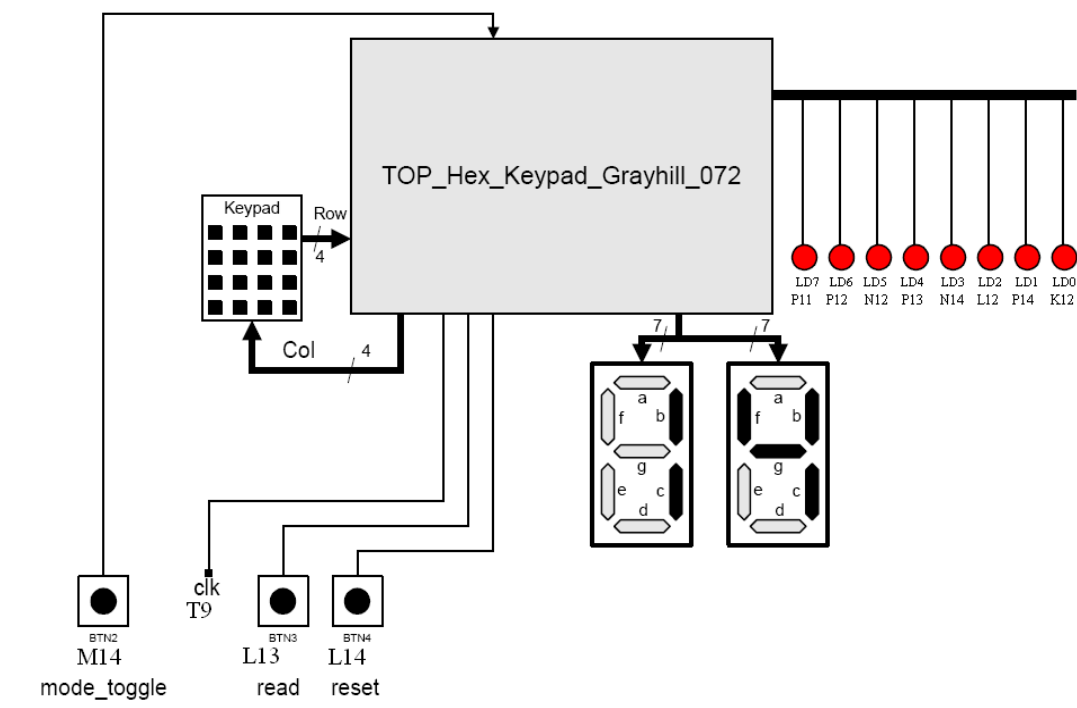
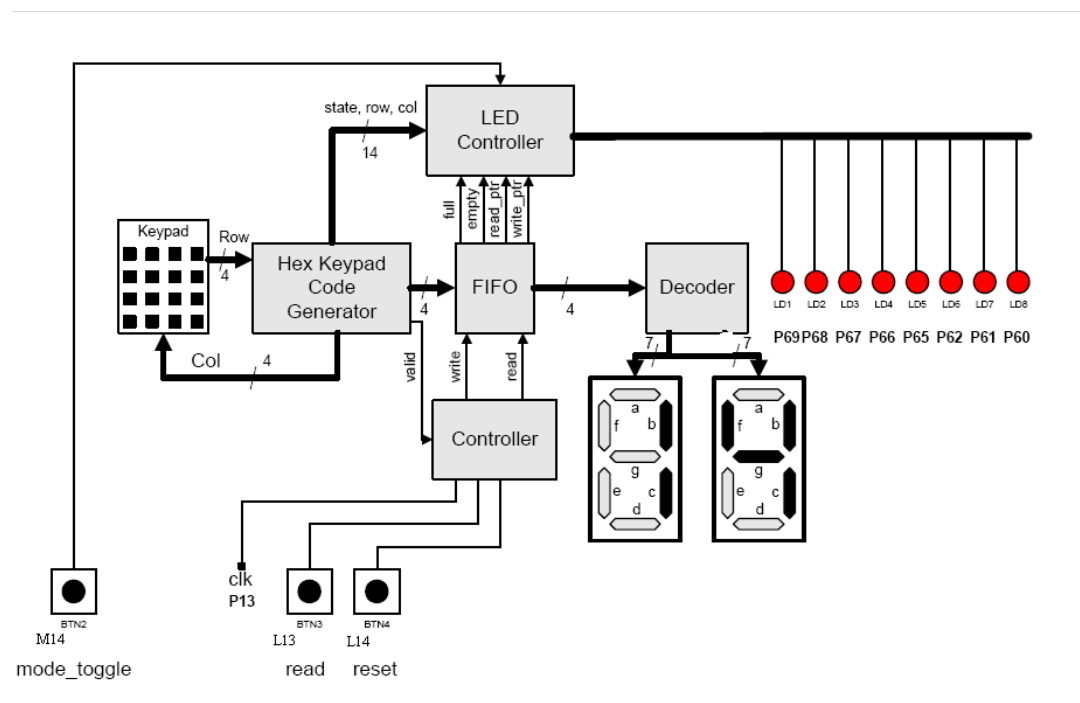

Figure 1: Keypad scanner top level
Figure 2: Partition of keypad scanner
The top level block diagram of the system is shown in Figure 1 and the I/O in Table 1. When a button of the hex keypad is pressed the system must decode the button and store the data in an internal FIFO. The *read* button will be used to read data from the FIFO and display the data on the seven-segment displays. The *mode_toggle* input will be used to toggle between display states so that more than eight signals can be presented for view on the LED's. The LEDs will display the status of the FIFO and other information. The hardware prototype will be verified to operate with the Grayhill 072 hex Keypad. A system partition is shown in Figure 2. As input *mode_toggle* is depressed output *DGrp* will toggle between DGrp1, DGrp2, and DGrp3 as denoted in Table 2.
A decoder must be designed to (1) decode a word read from the FIFO and (2) create driving signals for the two active-low, seven-segment displays on the Digilab board. The decoder must generate display signals in BCD for the 16 codes of the *Grayhill 072* keypad. Referring to Figure 2 the MSB of the 7-segment input is mapped to the "a" segment of the display and the LSB is mapped to the "g" segment of the string "abcdefg." Each seven segment display has an active low enable which must be driven. These are called `seven_seg_0_en` and `seven_seg_1_en`.